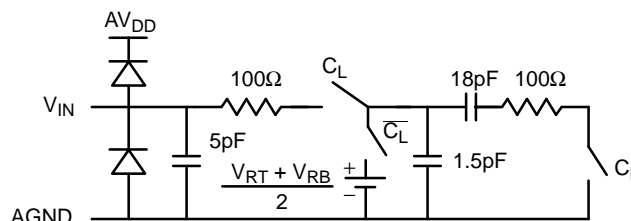

Figure 8. Equivalent Input Circuit
- ⁵ See V_{IN} equivalent circuit (*Figure 8*). Switched capacitor analog input requires driver with low output resistance.
This part has a switched capacitor type input circuit. This means that the input impedance changes with the phase of the input clock. Figure 8 shows an equivalent input circuit.